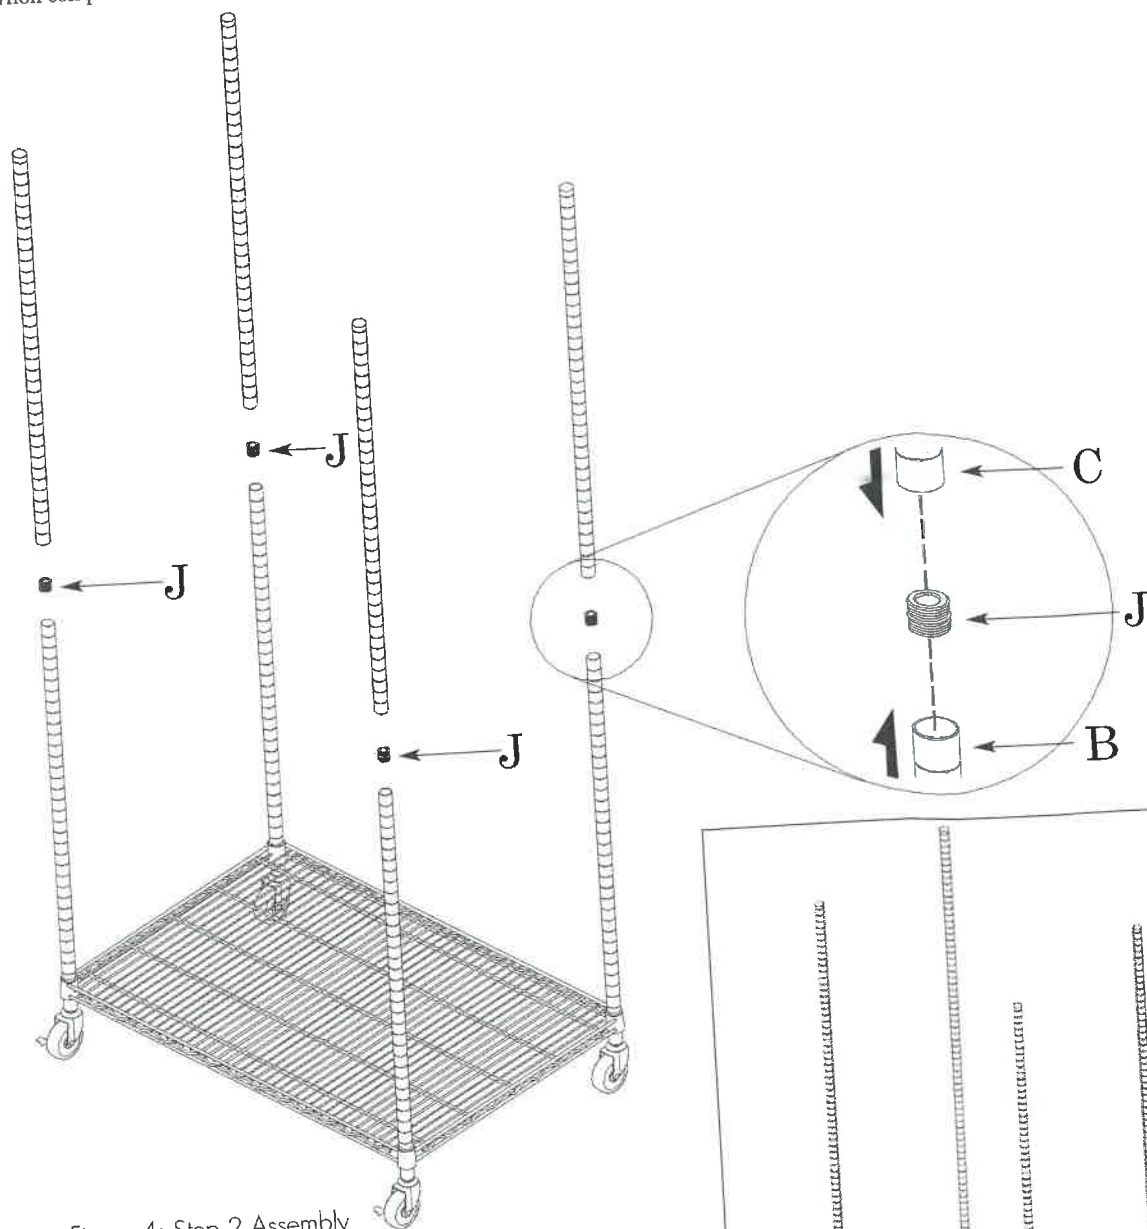

Figure 4: Step 2 Assembly
Stand the frame upright. Using joiners (J), connect all four C tubes to the B tubes as shown in Figure 4 and inset.